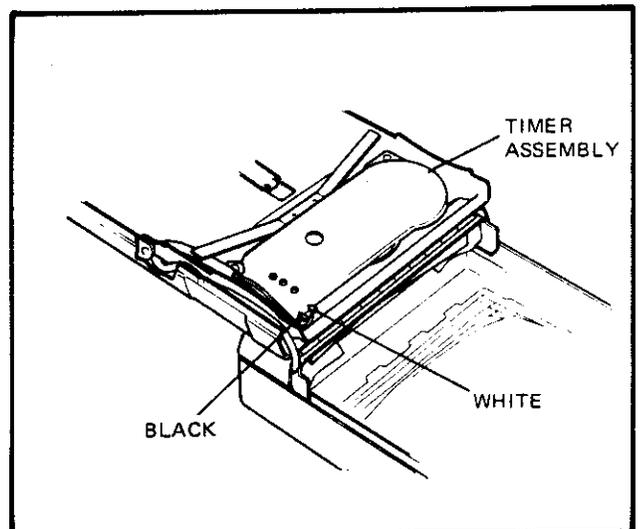

FIG. 5.36 LOCATION OF TIMER LEADS
- Open the rear door and unsolder the black and white leads (identified in Figure 5-36) from the timer.
3. Solder the black and white leads to the timer (see Figure 5-36).